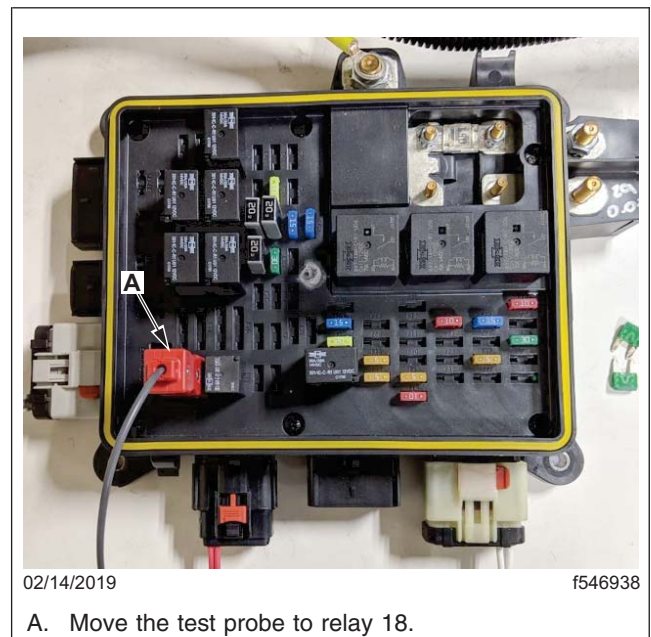

Fig. 5, Test Probe Moved to Relay 18
11. Move the test probe to the location for relay 18. See Fig. 5. This will test the J9 connector Pin 6 and Pin 7.